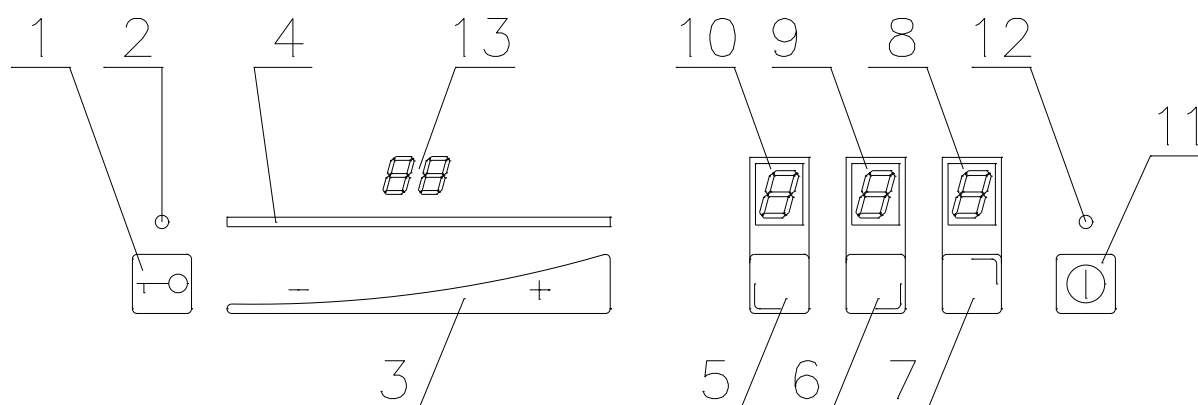

Fig. 2 (control panel – item 9. on fig. 1.)
Because the hob controls must be supplied with **12 VDC** power, the hob is supplied from a **12V** power source via a special power adapter, included with the delivered hob. Nozzles adapted to commonly used G 20 gas are installed in the delivered hob by default. The gas source can be a gas network, or a liquid gas cylinder. Through replacing the working nozzles according to **Table 1** and changing the size of air diaphragm according to **Table 3**, the user is able to adapt the hob to burning a different type of gas. Nozzles for all applicable types of gas are included in the this manual. A **touch control panel** is located in the front part of the hob (fig. 2). It is for controlling and regulating the specific gas burners of the cooker. It also displays relevant messages of the hob operating conditions.
-TIMER function, touch the burner selection fields twice (Fig.2, no 5,6 or 7), touch “+” and “-“ to select time in minutes (from 1 to 99 min.), the burner stops automatically after selected time
NOTE!!!! - do not switch on the hob burners for a prolonged period without filled dishes put on the hot fields first!!! Otherwise, your device might be damaged. When you choose any single burner by touching the controller activating field no 5, or 6, or 7 on fig. 2 and set the power by touching the power setting slider, no 2 fig. 2, within a range exceeding “0”, the selected burner will go on. This is supposed to happen within less than 5 seconds of enabling the controller via on/off sensor – no 11 on fig. 2. If the delay is longer than specified above, the burner will not start and the controller will switch to standby mode until further instruction is received. All changes of controller program status are accompanied by short sound signals. To start individual burners of the hob, make sure you do the following: Put a filled pot on the relevant heating pad.
– Touch the on/off sensor **no 11 fig. 2**. “0” indicators will light up in fields **5, 6, 7**. If you touch the sensor corresponding to the selected burner – **fig. 2**, again, as needed and as indicated on the heating panel, you start the second stage of burner setting. Slide your finger along the setting slider – **no 3 on fig. 2** – to set the required power of the heating pad. At that time, the power setting display – **no 4 of fig. 2** – displays a row of diodes and a digital message shows in the previously selected field, within the range of **0** to **9**, showing the power value set. As the row of diodes extends and the message number displayed increases, the burner power increases as well, and opposite – if you slide your finger towards the key symbol, you will reduce the power setting. The row of LEDs will simultaneously become shorter and the numbers displayed are lower, to finally reach “0”. “9” corresponds to the maximum heating power of the burner, and “0” corresponds to no power set.
– Follow the same procedure with each burner. You may touch the sensors described above at any time to set the desired heating power of burner, in the range from 1 to 9. After each change of the selected burner’s power setting, the row of LEDs will light up, then go off after a short time, with only the modified power setting of the active burner being displayed. When you have started all burners, their power settings are displayed accordingly and the LED row – **no 4. fig. 2** is off. Burners that have not been switched on in the relevant controller field corresponding to the burner indicated on the panel will remain off and not light up.
The hob operating status with reheating is a transitory condition for rapid achievement of target temperature of the active hot field, up to the heating power set. It is signaled by the decimal point lighting up next to the active burner's digital indicator (5,6,7, fig2).
3.4. Switching off the burners. In order to switch off any of the operating burners, touch the corresponding sensor, then slide your finger along the slider towards the "key" so that to reduce the burner's power setting to "0" (gas supply shutdown). During this operation, the row of LEDs (**no 4 fig. 2**) showing the power level goes down and the digits decrease from the level previously set to level "0". When level "0" is reached and the controller is ready for restarting, the letter "H" will display after a moment, indicating that the panel is hot in the location of the burner that has just been shut down. You may also switch off the entire hob. To do so, touch the main shutdown switch sensor, or press and hold the power setting slider around zero power for some time, having previously activated the selected sensor for switching down the burner. All working burners will go off and those just shut down will display the letter "H".
- touch the sensor /key/ with your finger – **no 1 fig. 2** at least twice in 2 seconds' time. When pressed shortly twice, the controller will be locked,
- signaling LED lighting up and a sound signal **no 2 fig. 2** indicating the controller lock status, a long sound signal will be heard simultaneously. The hob controller does not respond to any instructions except for lock status change.
Proceed in a similar way to deactivate the lock status:- touch the sensor with your finger (**no 1 fig. 2**) twice within up to 2 seconds,
- the signal LED (**no 2 fig. 2**) goes off, the lock is off, and a sound signal is emitted.